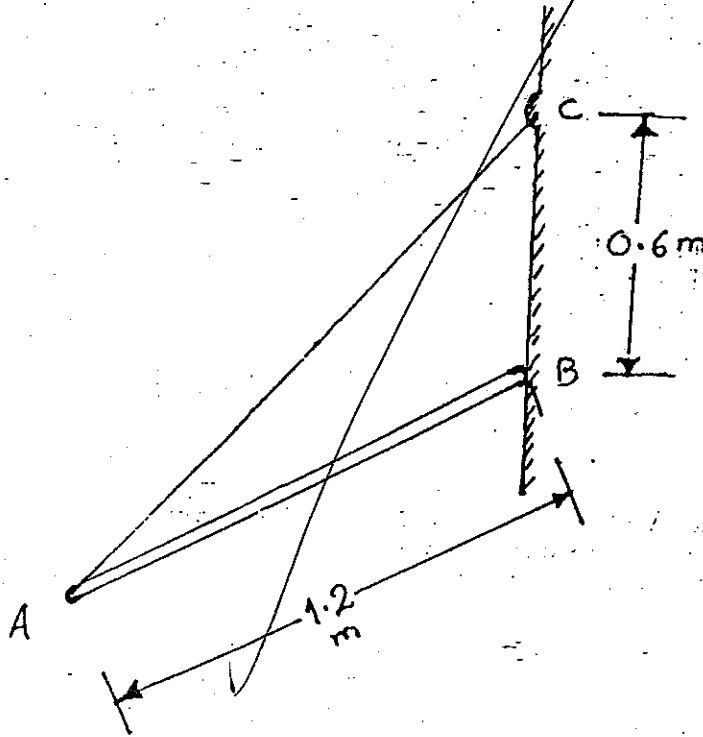

Fig 2
b) A 1.2 m rod, of uniform cross section is held in equilibrium as shown in fig. 2, with one end against a frictionless vertical wall and the other end is attached to a cord. Determine the length of the cord.